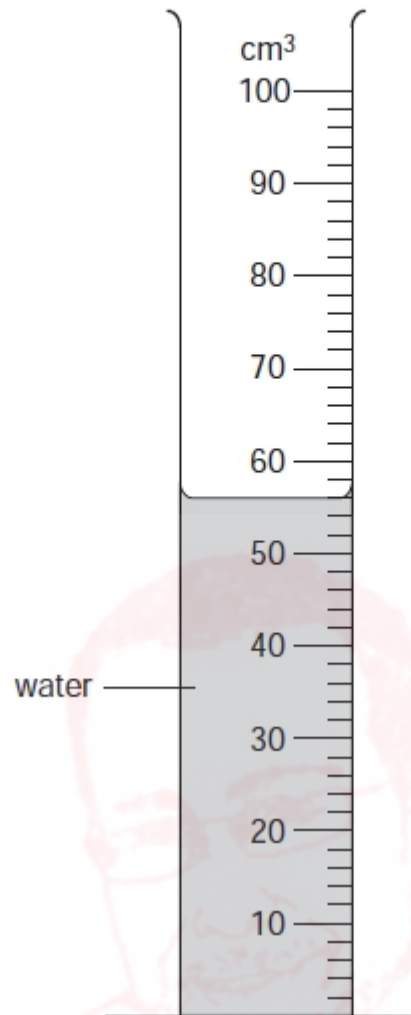

Fig. 1.2
- (ii) The student then fills the test-tube with water and pours the water into a measuring cylinder. Fig. 1.2 shows the measuring cylinder.